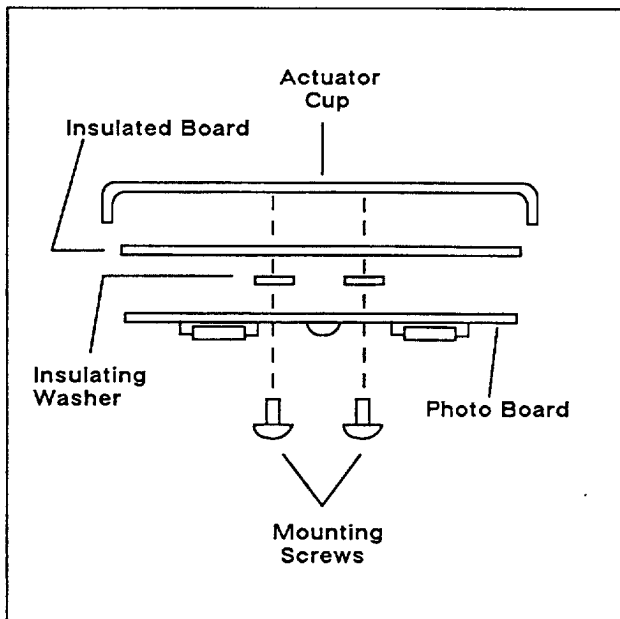

Figure 6. Photo Transistor Board Mounting
14. Attach photo transistor board (B-292902), insulator (257850), washers (243321) and actuator cup to end of rotor shaft with screws retained from step 4. Torque to 10 in. lbs. maximum (1.1 Nm). Photo transistor board and mounting components should be assembled as shown in Figure 6.